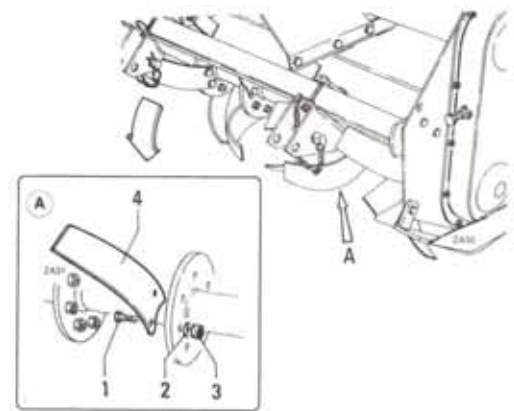

Figure 16
- Blades "4" (Fig. 16) must be replaced if they are damaged, bent, worn or blunt.